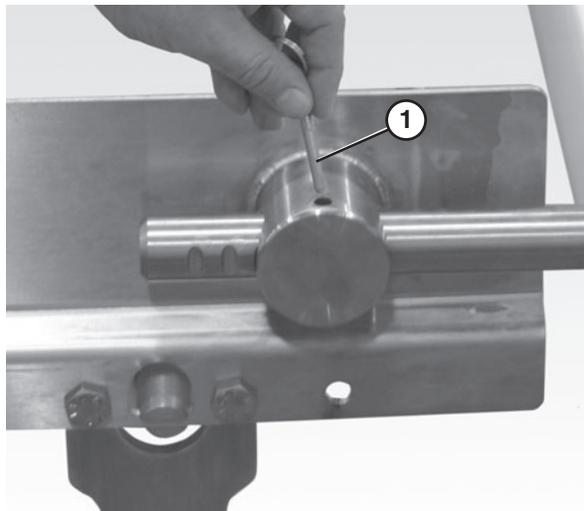

Figure 58
1. Remove the pull pins (Figure 58, item 1) on the tension end of the conveyor to release tension on the belt.